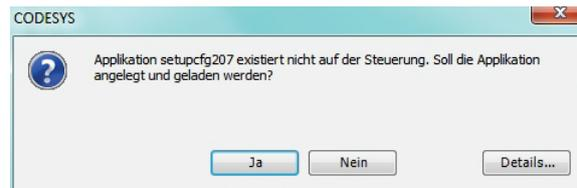

Fig. C.4 Application transfer confirmation
- In the following dialog (Fig. C.4) click **Yes** to enable the transfer.